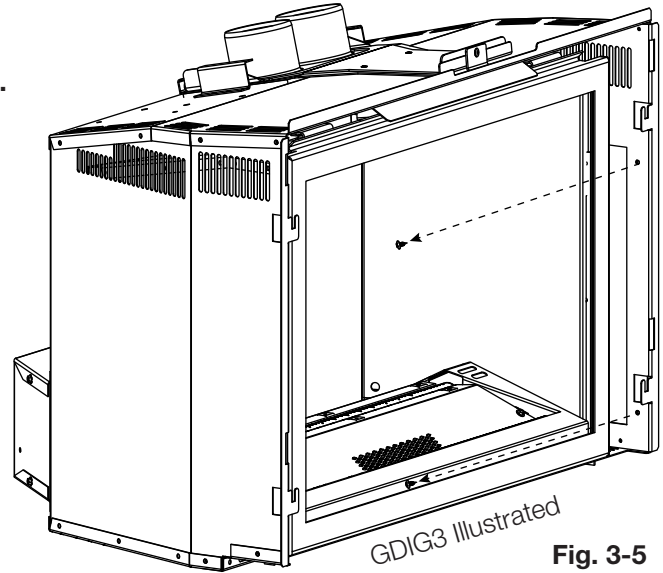

Fig. 3-5
2. Remove the front 2 screws from the inside edge (**Fig. 3-5**) and swing the control door open.